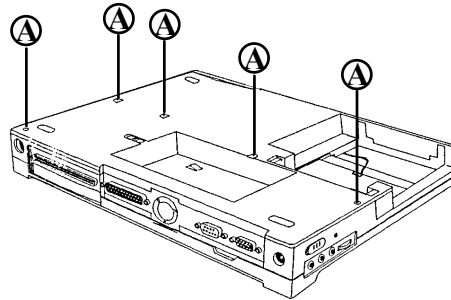

FIGURE 8-2
8. REMOVE THE FIVE BOTTOM SCREWS(FIGURE 8-2 A).